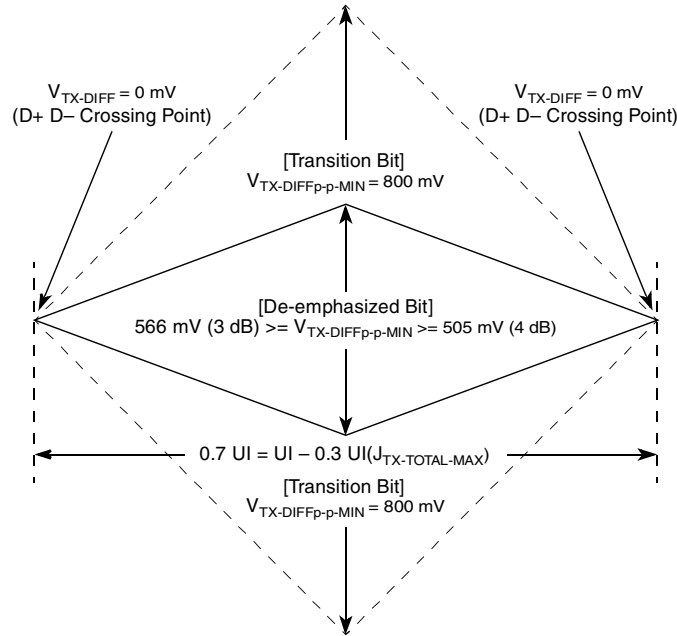
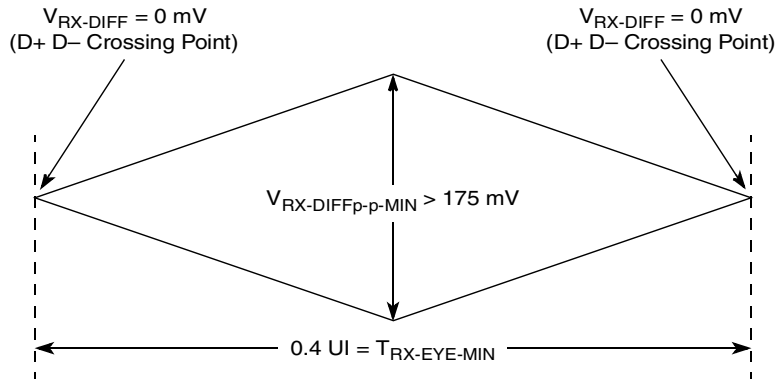
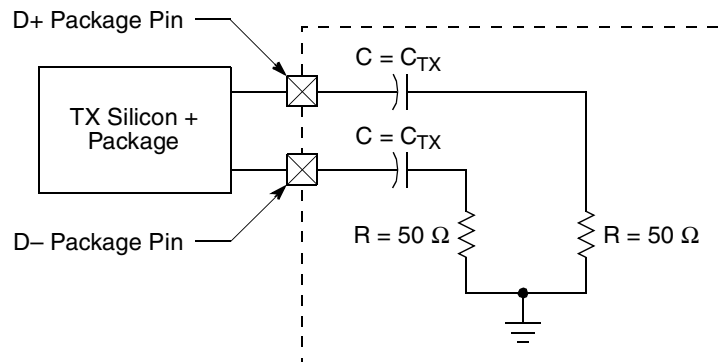

Figure 46. Minimum Transmitter Timing and Voltage Output Compliance Specifications
Figure 47. Minimum Receiver Eye Timing and Voltage Compliance Specification
Figure 48. Compliance Test/Measurement Load
2. Specified at the measurement point into a timing and voltage compliance test load as shown in Figure 48 and measured over any 250 consecutive Tx UIs. (Also refer to the transmitter compliance eye diagram shown in Figure 46.)
4. The transmitter input impedance will result in a differential return loss greater than or equal to 12 dB and a common mode return loss greater than or equal to 6 dB over a frequency range of 50 MHz to 1.25 GHz. This input impedance requirement applies to all valid input levels. The reference impedance for return loss measurements is 50 Ω to ground for both the D+ and D– line (that is, as measured by a vector network analyzer with 50- Ω probes, see Figure 48). Note that the series capacitors, C_{TX} , is optional for the return loss measurement.
5. Measured between 20%–80% at transmitter package pins into a test load as shown in Figure 48 for both V_{TX-D+} and V_{TX-D-} .
The Tx eye diagram in Figure 46 is specified using the passive compliance/test measurement load (see Figure 48) in place of any real PCI Express interconnect + Rx component. There are two eye diagrams that must be met for the transmitter. Both diagrams must be aligned in time using the jitter median to locate the center of the eye diagram. The different eye diagrams differ in voltage depending on whether it is a transition bit or a de-emphasized bit. The exact reduced voltage level of the de-emphasized bit is always relative to the transition bit.
2. Specified at the measurement point and measured over any 250 consecutive UIs. The test load in Figure 48 should be used as the Rx device when taking measurements (also refer to the receiver compliance eye diagram shown in Figure 47). If the clocks to the Rx and Tx are not derived from the same reference clock, the Tx UI recovered from 3500 consecutive UI must be used as a reference for the eye diagram.
4. The receiver input impedance will result in a differential return loss greater than or equal to 10 dB with the D+ line biased to 300 mV and the D– line biased to –300 mV and a common mode return loss greater than or equal to 6 dB (no bias required) over a frequency range of 50 MHz to 1.25 GHz. This input impedance requirement applies to all valid input levels. The reference impedance for return loss measurements for is 50 Ω to ground for both the D+ and D– line (that is, as measured by a vector network analyzer with 50- Ω probes, see Figure 48). Note that the series capacitors, C_{TX} , is optional for the return loss measurement.
The Rx eye diagram in Figure 47 is specified using the passive compliance/test measurement load (see Figure 48) in place of any real PCI Express Rx component. In general, the minimum receiver eye diagram measured with the compliance/test measurement load (see Figure 48) is larger than the minimum receiver eye diagram measured over a range of systems at the input receiver of any real PCI Express component. The degraded eye diagram at the input receiver is due to traces internal to the package as well as silicon parasitic characteristics that cause the real PCI Express component to vary in impedance from the
compliance/test measurement load. The input receiver eye diagram is implementation specific and is not specified. Rx component designer should provide additional margin to adequately compensate for the degraded minimum receiver eye diagram (shown in Figure 47) expected at the input receiver based on an adequate combination of system simulations and the return loss measured looking into the Rx package and silicon. The Rx eye diagram must be aligned in time using the jitter median to locate the center of the eye diagram.
The reference impedance for return loss measurements is 50 Ω to ground for both the D+ and D– line (that is, as measured by a Vector Network Analyzer with 50 Ω probes—see Figure 48). Note that the series capacitors, C_{PEACCTX}, are optional for the return loss measurement.
The AC timing and voltage parameters must be verified at the measurement point, as specified within 0.2 inches of the package pins, into a test/measurement load shown in Figure 48.